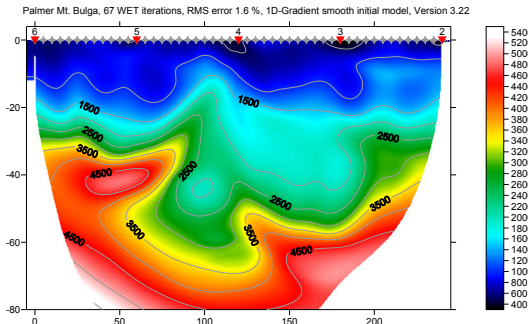

Fig. 13 : 67 WET iterations, wavepath width 3.5%. RMS error is 1.6%, starting model is Fig. 5.
- click buttons *Accept parameters* and *Start tomography processing*. Obtain Fig. 13 and 14.